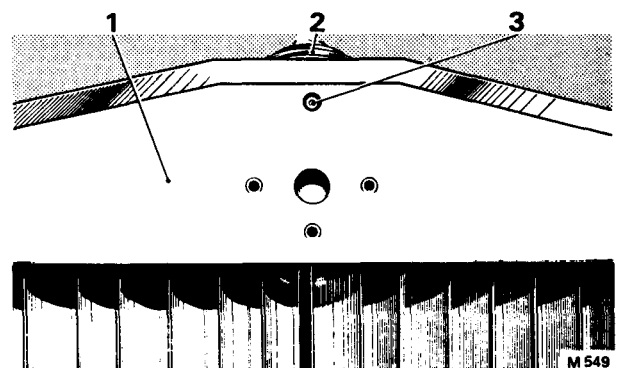

FIG. S127 POSITION OF THE RADIATOR MASCOT SECURING SCREW
2. To remove the mascot, slacken the socket headed screw securing the mascot to the clamping boss on the radiator shell; access to this screw is through the central hole in the upper rear face of the radiator shell (see Fig. S127).